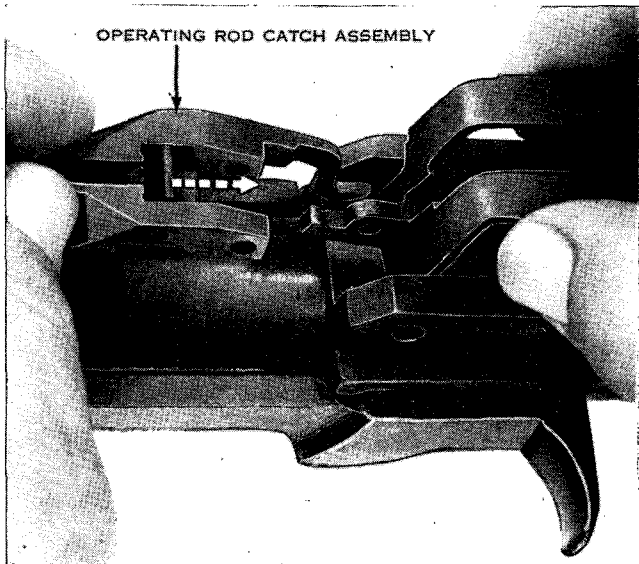

Figure 37. Replacing the operating rod catch assembly.
f. With your right hand, swing up the lower part of the bullet guide slightly. With the left hand, insert the long rear arm of the operating rod catch assembly through the clearance cut in the bullet guide. Make sure that the rear of the long arm is underneath the front stud of the clip latch which projects into the receiver (fig. 37). Lower the bullet guide into place. To test for correct assembly, press down on the front arms of the operating rod catch. When released, they should spring back into place.